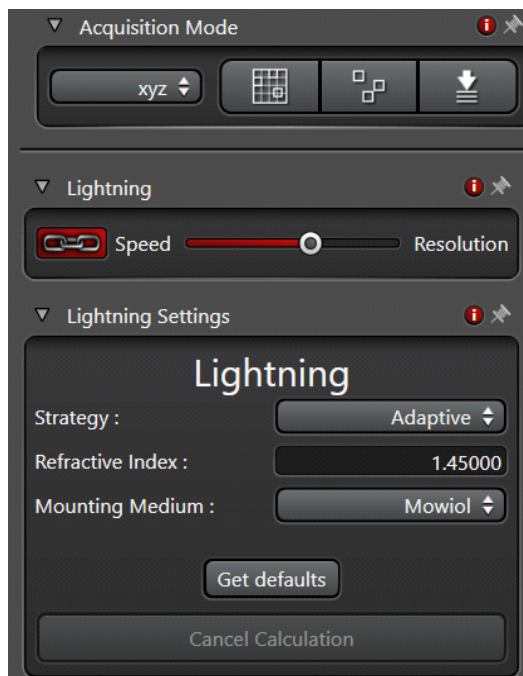

Fig.10
- The Lightning slider (Fig.10) controls the deconvolution strength by acting on imaging parameters such as: